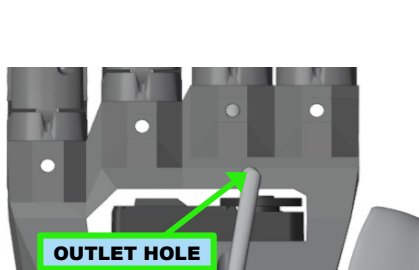
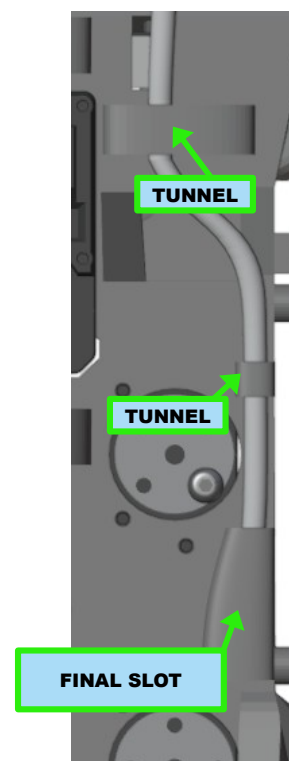

Figure 5.27: Inserting the tube into the tendon outlet hole (rear view)
Figure 5.26 : Inserting the tube into the two pass-through tunnels and then into the final slot (rear view)
1. Insert the PTFE tube into the outlet hole (on the rear of the skeleton) of the flexion tendon (figure 5.26), let it come out through the inlet hole on the front of the skeleton and insert it into the initial slot (figure 5.27)